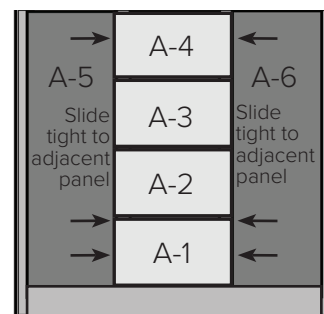

Figure 3.4.6
3.4.6 Be sure to slide the vertical panels tight to adjacent wall panels. Vertical male bracket will interlock with vertical female bracket, so that there will not be any separation between the wall panels. See Figure 3.4.6.